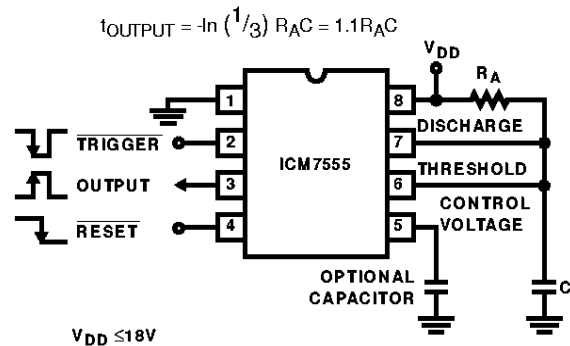

FIGURE 3. MONOSTABLE OPERATION
In this mode of operation, the timer functions as a one-shot, see Figure 3. Initially the external capacitor (C) is held discharged by a transistor inside the timer. Upon application of a negative TRIGGER pulse to pin 2, the internal flip-flop is set which releases the short circuit across the external capacitor and drives the OUTPUT high. The voltage across the capacitor now increases exponentially with a time constant $t = R_A C$. When the voltage across the capacitor equals $2/3 V_{DD}$, the comparator resets the flip-flop, which in turn discharges the capacitor rapidly and also drives the OUTPUT to its low state. TRIGGER must return to a high state before the OUTPUT can return to a low state.